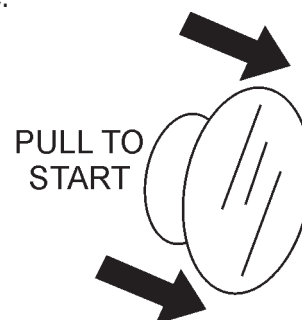

Figure 11. Engine Start/Stop Button
5. Located at the rear of the mixer frame is the main start/stop button (Figure 11). Pull this button outward to start the engine.